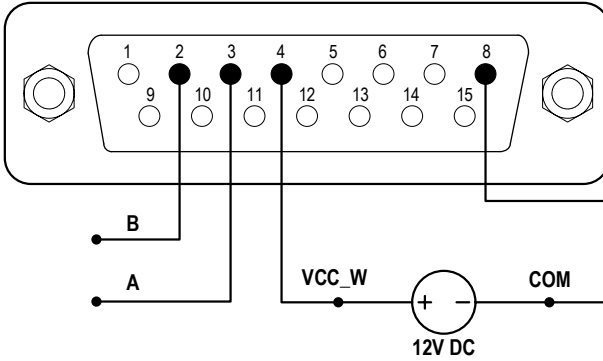
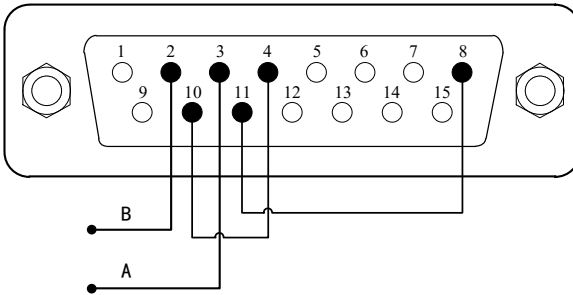

Figure 53 Control Start/Stop with an External 12V Power Source
Figure 54 Control Start/Stop with the Internal 12V Power Source
- 1) Turn the power off. Wire the DB15 connector as shown in Figure 53 or Figure 54, and connect it to the DB15 port on the rear of the pump.